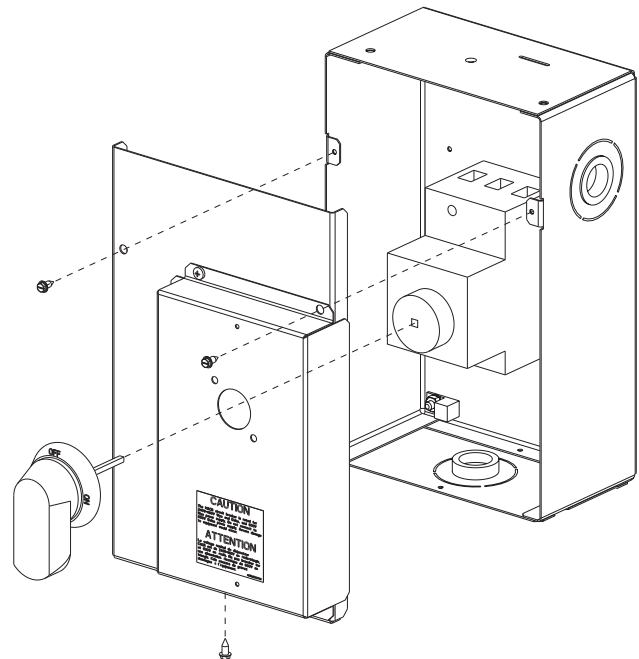

Fig. 35 — Handle and Shaft Assembly for HACR Circuit Breaker
2. Remove (3) hex screws on the HACR circuit breaker enclosure - (2) on the face of the cover and (1) on bottom (see Fig. 35).
9. Secure the handle to the painted cover with (2) screws and lock washers supplied.
10. Engaging the shaft into the handle socket, re-install (3) hex screws on the HACR circuit breaker enclosure.